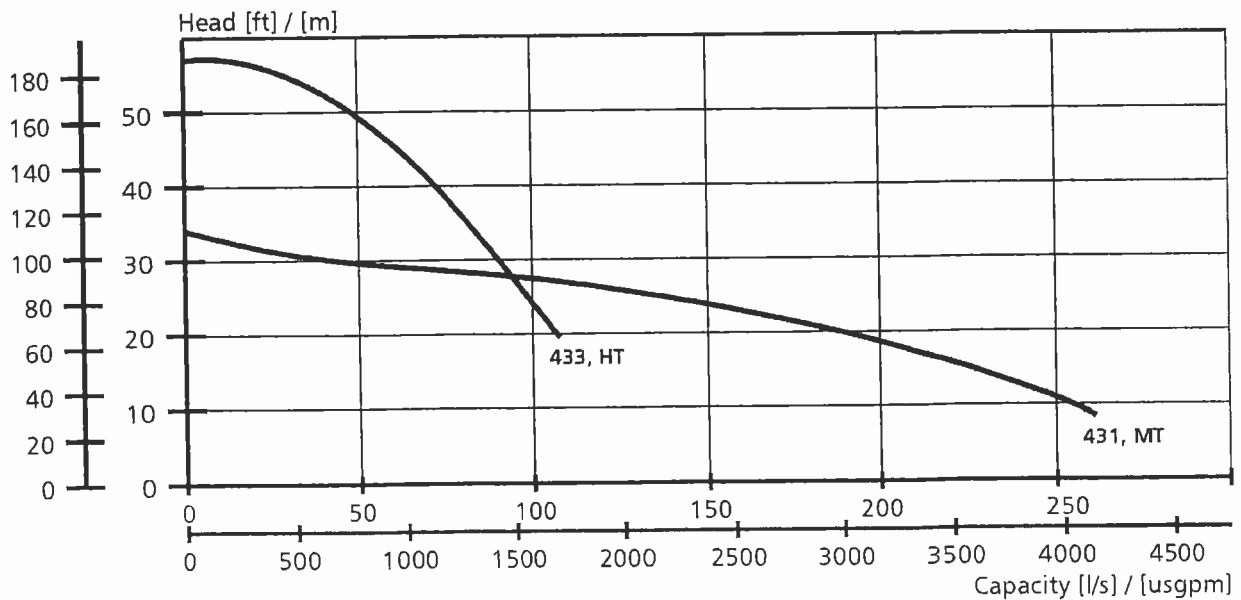

Figure 7.1 Pump characteristics (head and flow rate) for high head (433, HT) and high volume (431, MT) versions.
A mine has chosen to use in-pit pumps in a sinking cut sump to remove water. There are two of the same type of pump available with the characteristic curves shown in Figure 7.1. below. The pumps can be used in high volume (MT) or high head (HT) configuration. The pumps can also be used submersible (with a screen adaptor around the intake) or in series (tandem) with a pipe adaptor at the inlet.
- 7.1.a From the graph (Fig. 7.1. page 10) will the high volume pump configuration (431, MT) be used for both pumps. (1 mark)